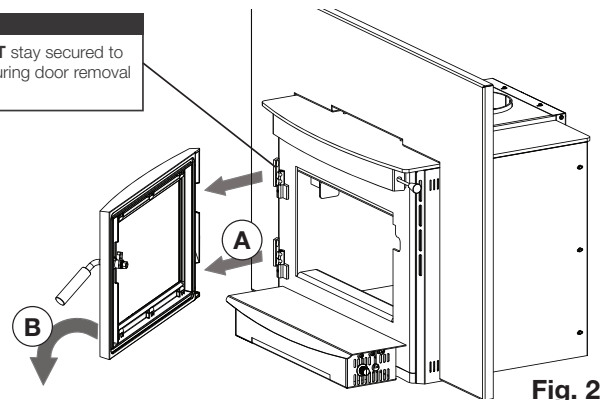

Fig. 2
2. Remove the door, placing it face down on a soft, non-abrasive surface (**Fig. 2**). Be careful not to scratch the paint.